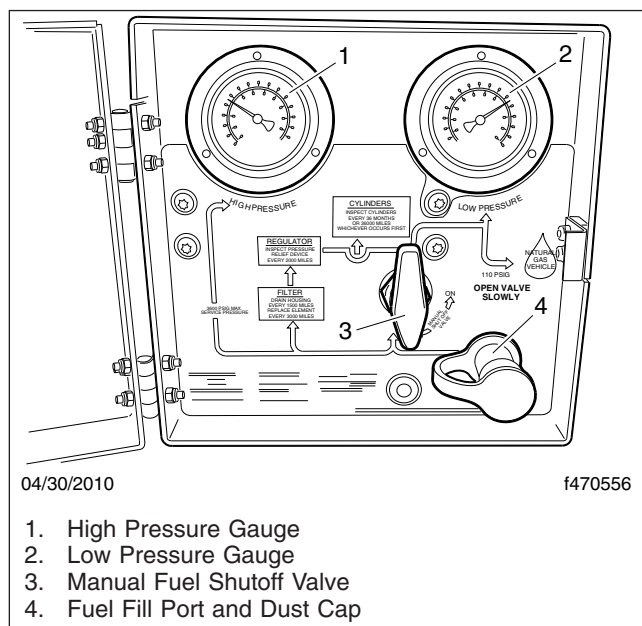

Fig. 11, CNG Fuel Panel
4. Inspect the fuel fill port for signs of damage or leaks. Ensure the port dust cover and the O-ring inside the port are both present and in good condition. See Fig. 11.